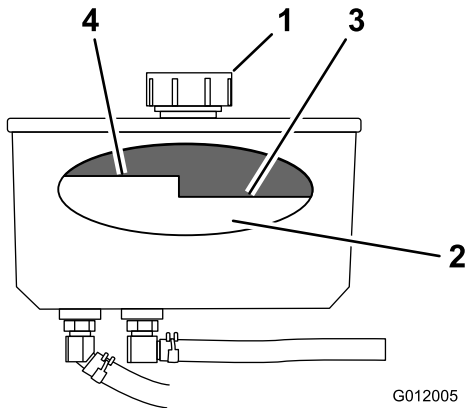

Figure 75
4. Clean the area around the cap and the filler neck of the hydraulic tank (Figure 75).
5. Remove the cap from the filler neck (Figure 75).
**Note:** The fluid level should be below the hot level of the baffle when the fluid is warm (Figure 75).